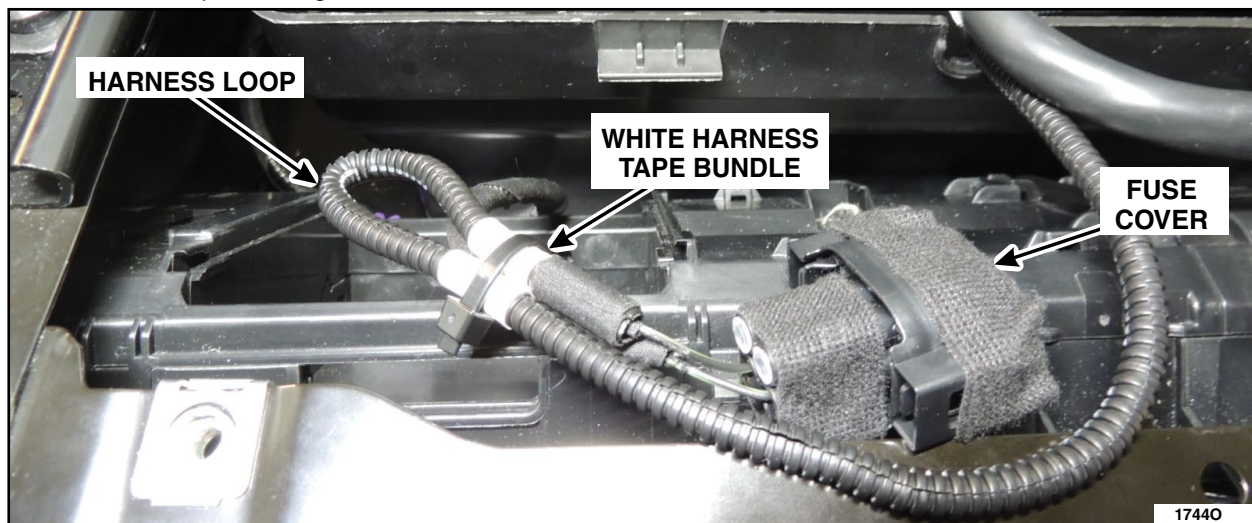

FIGURE 18
2. Create a loop on the ground eyelet wire near the inline fuse holder so the three white pieces of tape are bundled together and secured with a tie-strap (component F). Cut off and remove the extra length of the tie-strap. See Figure 18.